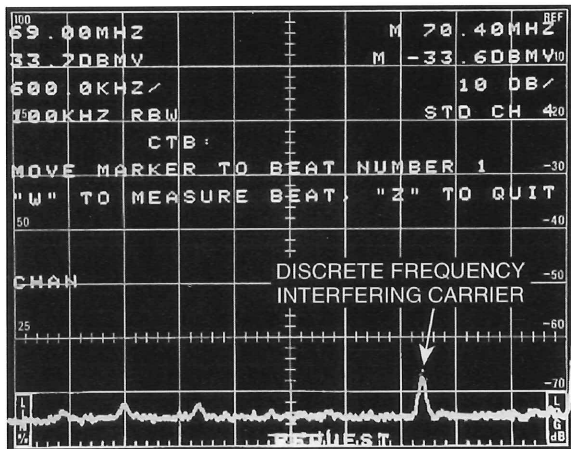

Figure 14. Positioning a marker on an interfering carrier.
8. Look for spurious signals in the display (see Figure 14). You may change settings on the 2714/2715 as desired to help view the signals. Reducing the resolution bandwidth (RES BW) and enabling the VID FLTR is quite effective in making spurious signals more visible. Use the large knob to move the marker to the first signal you want to measure (the marker does not need to be exactly centered on the signal – the 2714/2715 searches within 100 kHz of the marker frequency) and press W. The 2714/2715 measures the amplitude and relative frequency of the signal you selected and then instructs you to MOVE MARKER TO BEAT NUMBER 2. If you wish to measure additional signals, repeat the above procedure. As many as five signals can